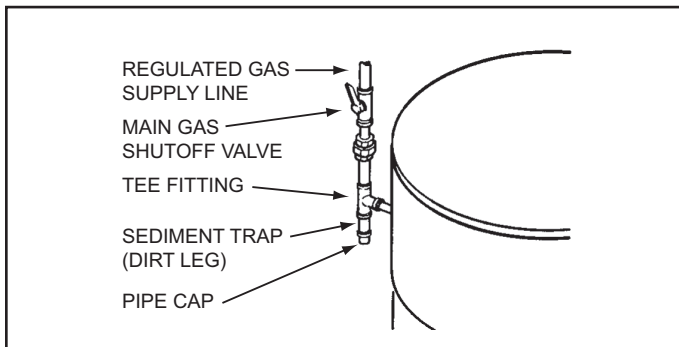

Figure 52
Ensure all gas pipe is clean on the inside before installation. To trap any dirt or foreign material in the gas supply line a sediment trap (dirt leg) must be installed as shown in Figure 52. The sediment trap must be readily accessible and not subject to freezing conditions. Install in accordance with the recommendations of
7. Install a sediment trap (dirt leg) as shown in Figure 52 on page 37.
8. Install a Main Gas Shutoff valve in the supply gas line as shown in Figure 52 on page 37.
1. For test pressures exceeding 1/2 psi (3.45 kPa) disconnect the water heater and its Main Gas Shutoff Valve from the gas supply piping system during testing, see Figure 52 on page 37. The gas supply line must be capped when disconnected from the water heater.